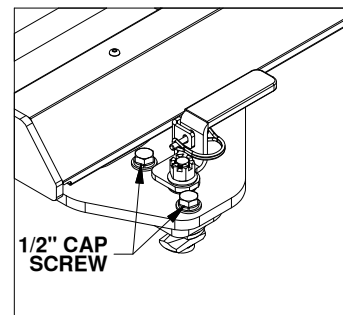

Figure B4: View of base foot
- Each leg of the Companion base has an adjustable pilot assembly which is attached to the foot with two 1/2" cap screws, as shown in Figure B4. To adjust the pilot assemblies that do not fit into the attachment points, loosen both the 1/2" cap screws so the pilot assembly can move freely, see Figure B4. Set the base over the attachment points and adjust the pilot assemblies until the pilot keys pass through the slot in the attachment points and the pilot shoulders rest flat against the top of the attachment points. When all the pilot assemblies are aligned and inside the attachment points, push the base towards the cab and use a tape measure to verify that the base is approximately square with the truck bed. Tighten any loose cap screws to 110 ft-lbs.